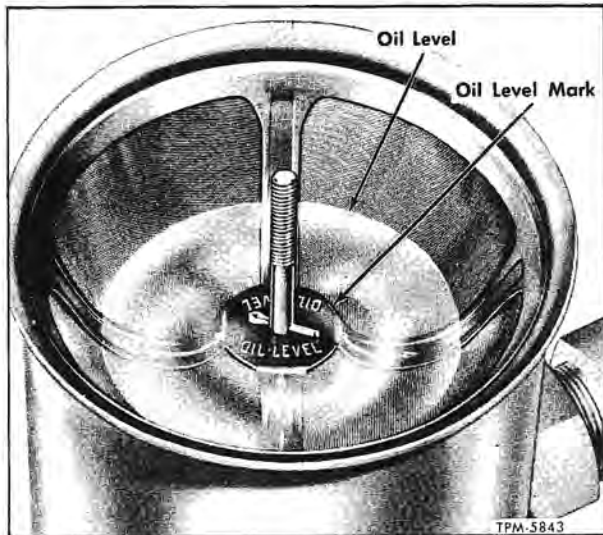

Figure 121—Oil Level in Condenser Fan Drive Fluid Reservoir
3. Loosen return (IN) line connection at fluid pump so that this line will fill with fluid. Retighten connection when all air is expelled.
5. Make sure all air is expelled from system and reservoir is full to "OIL LEVEL" mark (fig. 121). Check for leaks at all line connections.